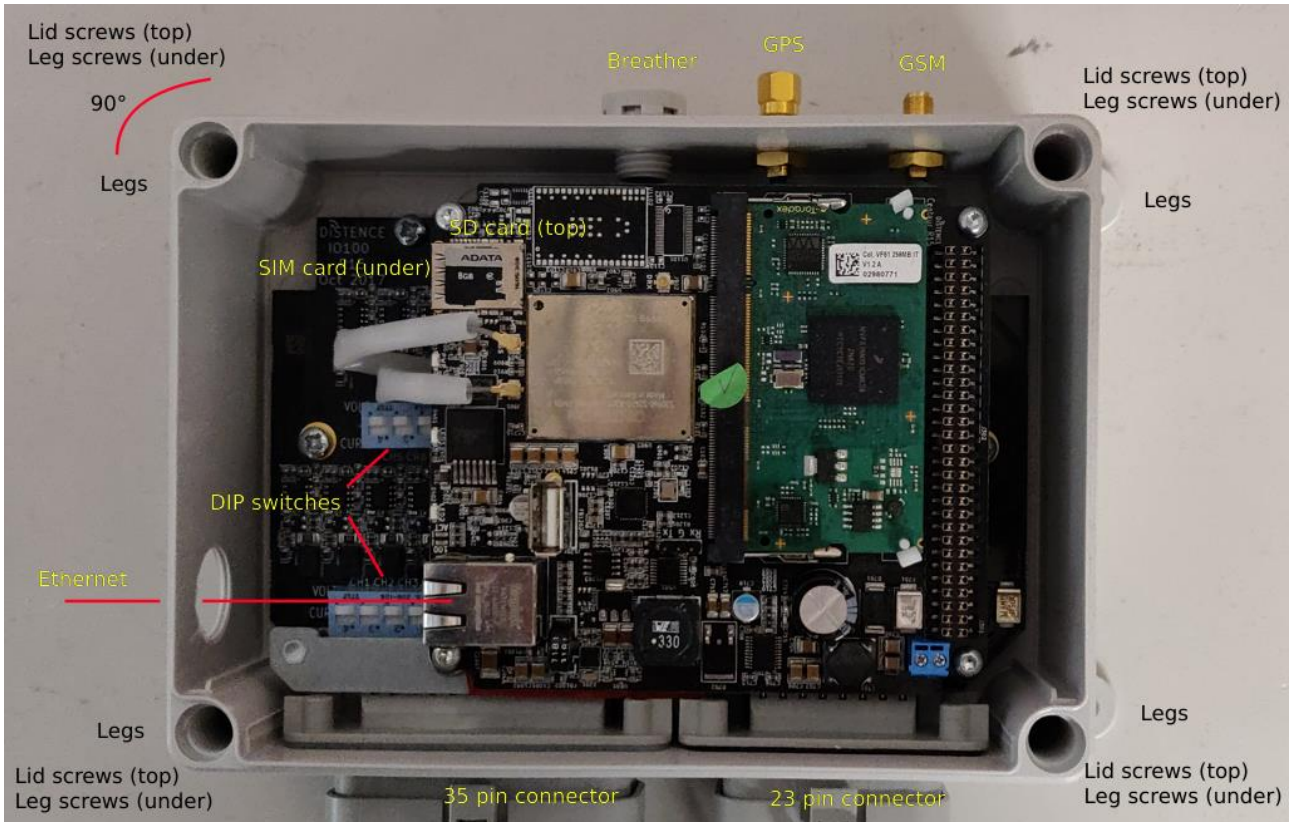

Figure 1: Overview of smart terminal
3. Locate the SIM card holder. It's on the top board and it's double holder shared with SD card. The SIM card slot is under SD card slot. See Figure 1 for locating SIM card holder.
1. Locate the antenna connector marked with text "GSM" outside the smart terminal enclosure. See Figure 1 for locating the antenna connector.
4. Locate the antenna connector marked with text "GPS" outside the smart terminal enclosure. See Figure 1 for locating the antenna connector.
1. Remove plug from cable gland hole located on the side of smart terminal enclosure (don't mix this with the breather on top of the product). See Figure 1 for locating Ethernet.
3. Screw cable gland tightly to the hole which was opened in item 1.
3. Locate the SD card holder. It's on the top board and it's double holder shared with SIM card. The SD card slot is under the SIM card slot. See Figure 1 for locating SD card holder.